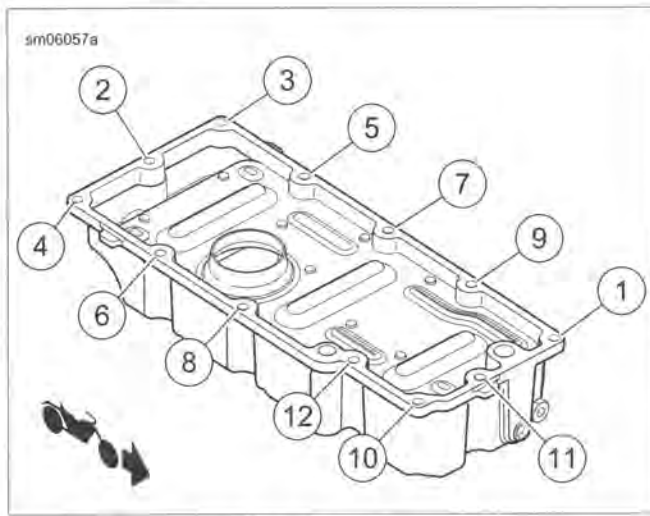

Figure 3-141. Oil Pan Torque Sequence
5. Position oil pan with gasket on bottom of transmission and loosely install fasteners (6).
6. Verify the gasket is properly positioned and tighten oil pan fasteners (6) to 132-156 in-lbs (14.9-17.6 Nm) following sequence shown in Figure 3-141.
8. Install transmission drain plug and O-ring (5). Tighten to 14-21 ft-lbs (19.0-28.5 Nm).
9. Install engine oil drain plug and O-ring (3). Tighten to 14-21 ft-lbs (19.0-28.5 Nm).